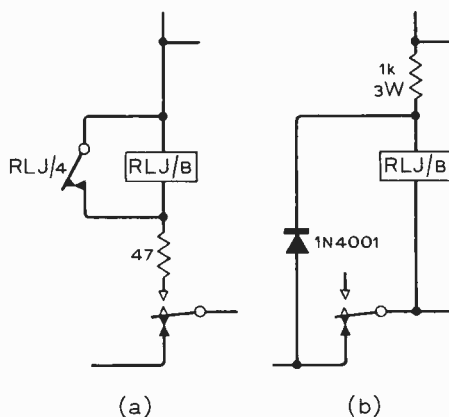

Fig. 1. Alternative ways of slugging relay RLJ/B
Post Office 3000 relays with slugs are not so common as those without, so other methods of slugging relays could be useful. For instance, for RLB one could use a freewheel diode across the coil (connect the anode to the negative side of the coil). For RLE try using a  $1k\Omega$  coil shunted by a  $820\Omega$  3W resistor (this is used in my system). Relays RLD, F, G and H can be slugged with either a freewheel diode or, if longer delays are required, an electrolytic capacitor (with a  $470\Omega$  series current-limiting resistor) across the coil. The slug on RLJ is, I believe, to stop the relay chattering to the 50Hz ring current. In this case a freewheel diode would not work. Some possibilities are: an electrolytic straight across the B coil (include some current-limiting resistance in the lead from RLJ/1); use a frequency much higher than 50Hz for the calling signal (see below) so that slugging is unnecessary; take a leaf out of the G.P.O.'s book and provide the slugging action by using a contact of RLJ to short circuit the holding (B) coil until it operated (Figs 1(a) and (b) illustrate possible methods using this idea). In Fig. 1(a) the  $47\Omega$  resistor saves damage occurring if RLJ/1 should make before RLJ/4 breaks. In Fig. 1(b) an extra contact is saved.